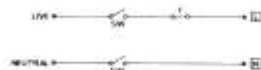

Fig 5.5.1
5.5.1 *Mains connections* are to be made, via a fuse (500mA or 250mA slow blow) and a switch, to contacts [1] and [2] as shown in Fig. 5.5.1.